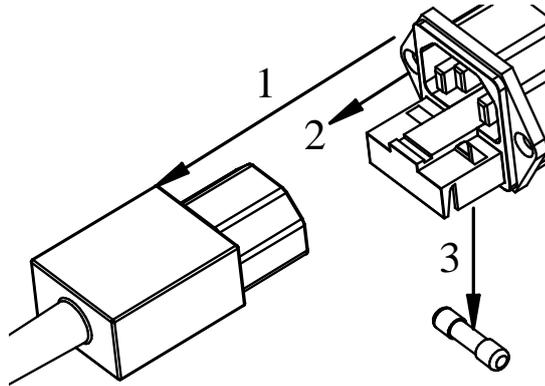

Figure 6 – Fuse link replacement.
- 1) Disconnect the power cord plug of the colposcope 1 (fig.6);